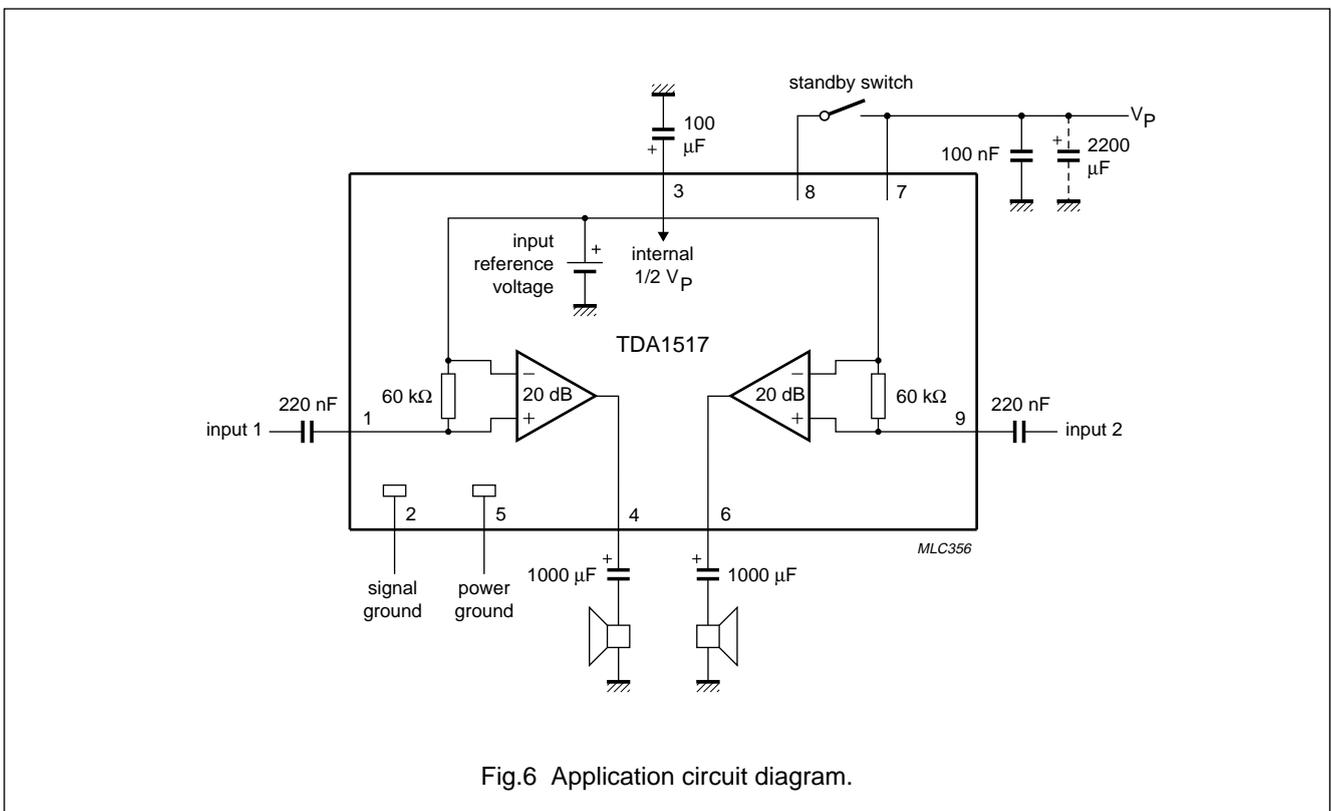

Fig.6 Application circuit diagram.
**2 × 6 W stereo car radio power amplifier****TDA1517****DC CHARACTERISTICS** $V_P = 14.4\text{ V}$ ;  $T_{\text{amb}} = 25\text{ °C}$ ; measured in Fig.6; unless otherwise specified.
**2 × 6 W stereo car radio power amplifier****TDA1517****AC CHARACTERISTICS** $V_P = 14.4\text{ V}$ ;  $R_L = 4\ \Omega$ ;  $f = 1\text{ kHz}$ ;  $T_{\text{amb}} = 25\text{ }^\circ\text{C}$ ; measured in Fig.6; unless otherwise specified.